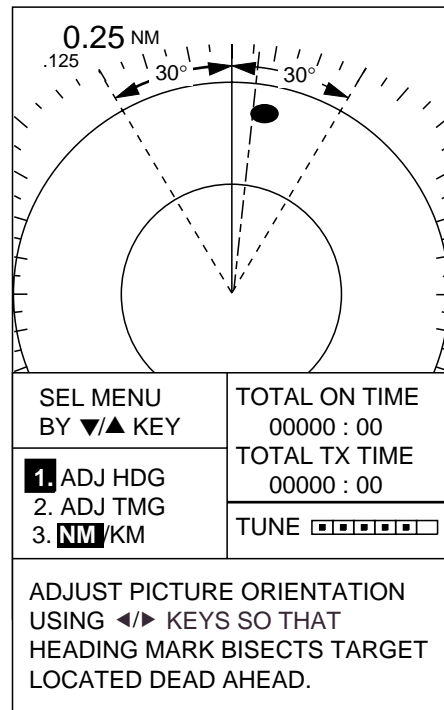

Figure 22 Display for adjustment of heading
3. Select ADJ HDG. Your display should now look something like the one shown in Figure 22.